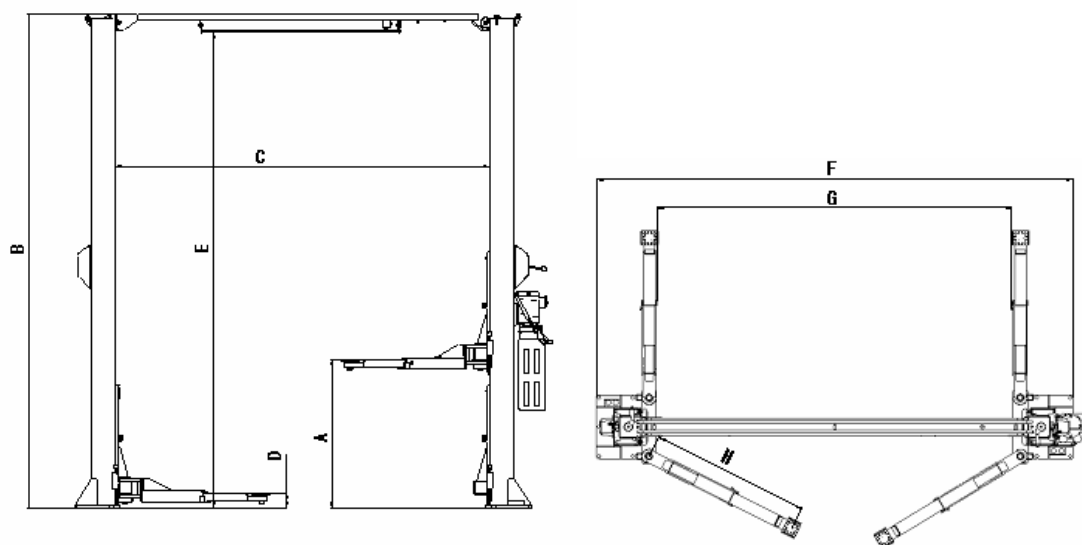

Figure 1
See Figure 1	HP-L4
8. Recheck “Inside of Columns” dimension, Fig 1. Drill the anchor holes using the base plate as a template. Drill through the floor if possible or to a depth of 3.5 inches minimum.